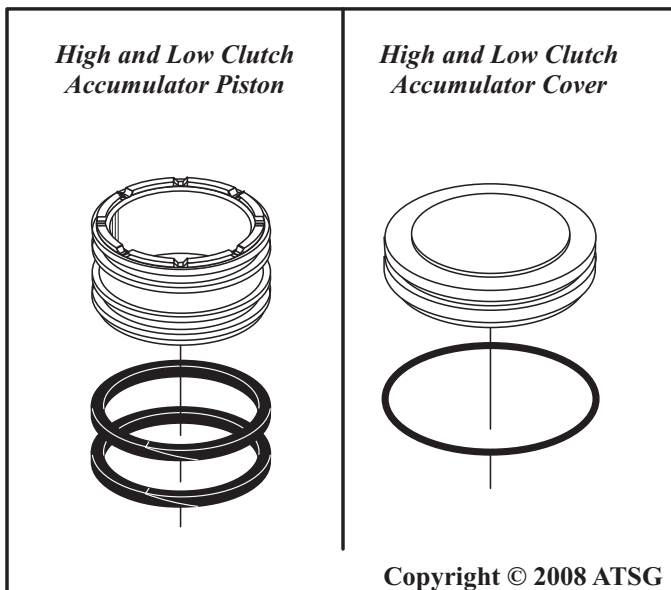

Figure 97
16. Install two new scarf-cut seal rings on both the high and the low clutch accumulator pistons, as shown in Figure 97, and ensure the scarf-cut is configured properly.
18. Install new "O" ring on both the high and the low clutch accumulator covers, as shown in Figure 97, and lube with small amount of ATF.